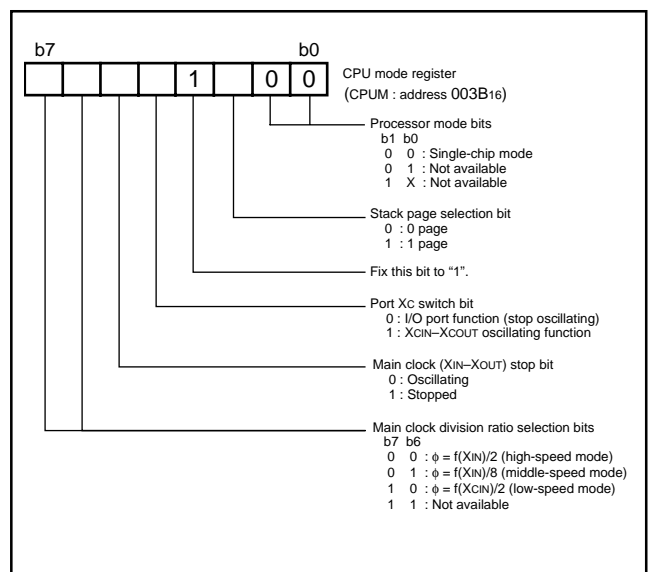

Fig. 103 CPU mode register bit configuration in CPU rewriting mode
Figure 103 shows the CPU mode register bit configuration in the CPU reprogramming mode.
- ① Apply 0 V to the CNVss/VPP pin for reset release.
- ② Set the CPU mode register (see Figure 103).
- ③ After CPU reprogramming mode control program is transferred to internal RAM, jump to this control program on RAM. (The following operations are controlled by this control program).
- ④ Set "1" to the CPU reprogramming mode select bit.
- ⑤ Apply VPPH to the CNVSS/VPP pin.
- ⑥ Wait till CNVSS/VPP pin becomes 12V.
- ⑦ Read the CPU reprogramming mode monitor flag to confirm whether the CPU reprogramming mode is valid.
- ⑧ The operation of the flash memory is executed by software-command-writing to the flash command register .